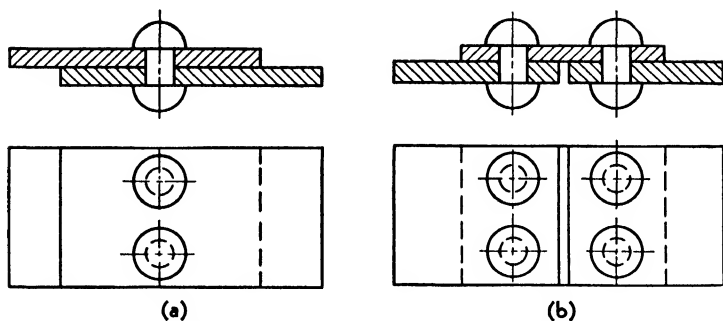

Fig. 232.—Types of riveted joints: (a) lap joint, (b) butt joint.
**C. Riveted Joints.** There are two main classifications of riveted joints: lap and butt joints, as illustrated in Fig. 232.